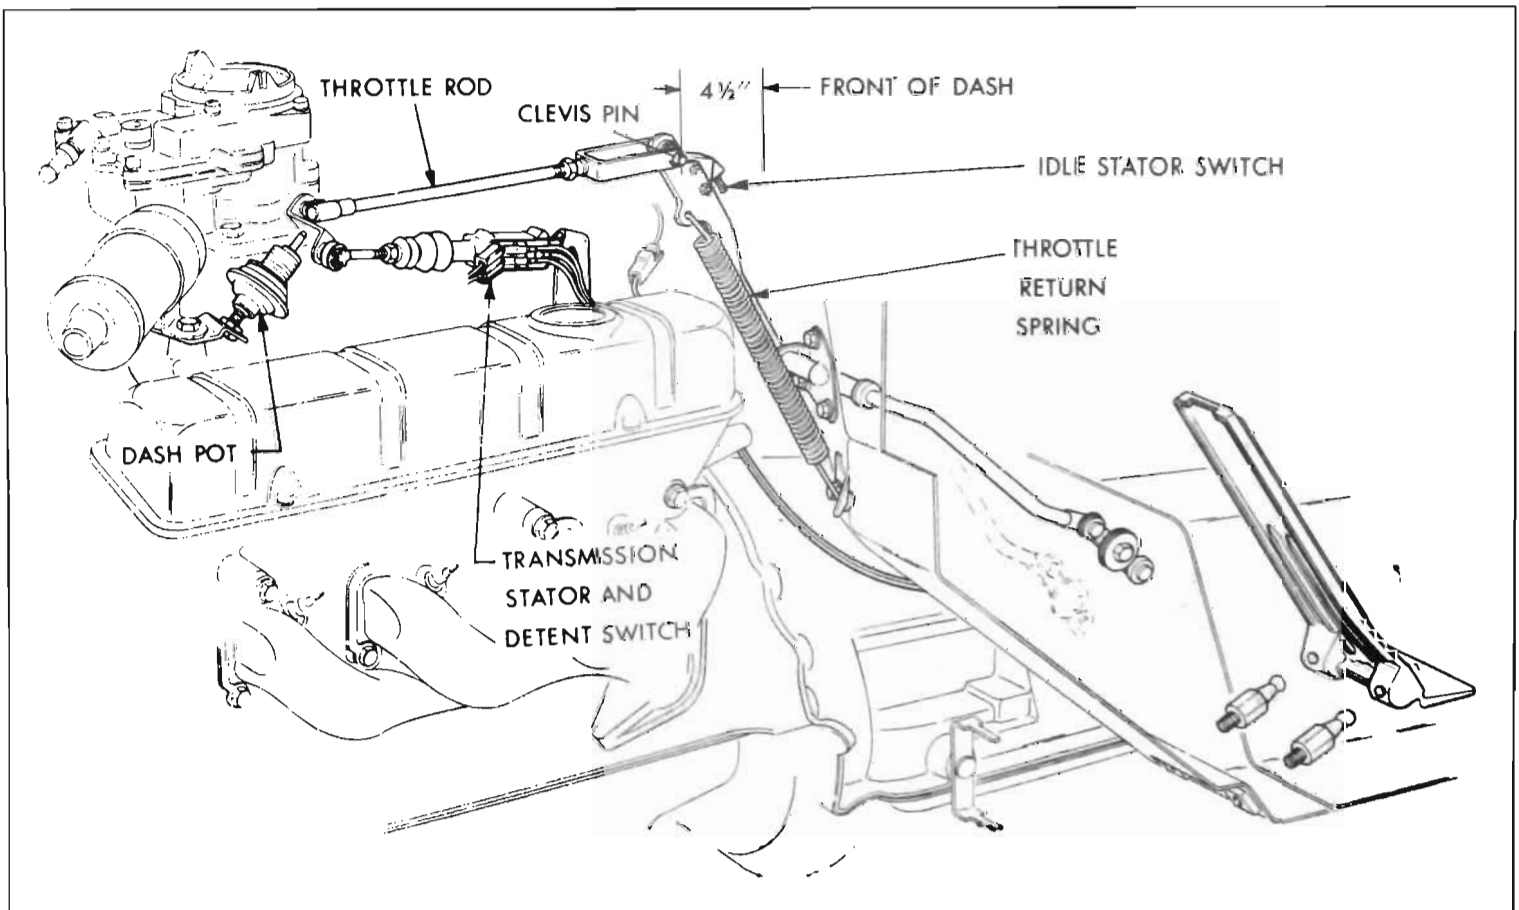

Figure 3-20—Throttle Linkage Adjustment
2. Adjust engine idle speed and mixture. See paragraph 3-8. With throttle linkage in hot curb idle position, measurement from throttle rod clevis pin horizontally to dash must be 4-1/2 inches  $\pm$  1/4 inch. If measurement is off, shorten or lengthen throttle operating rod as required to correct. See Figure 3-20.